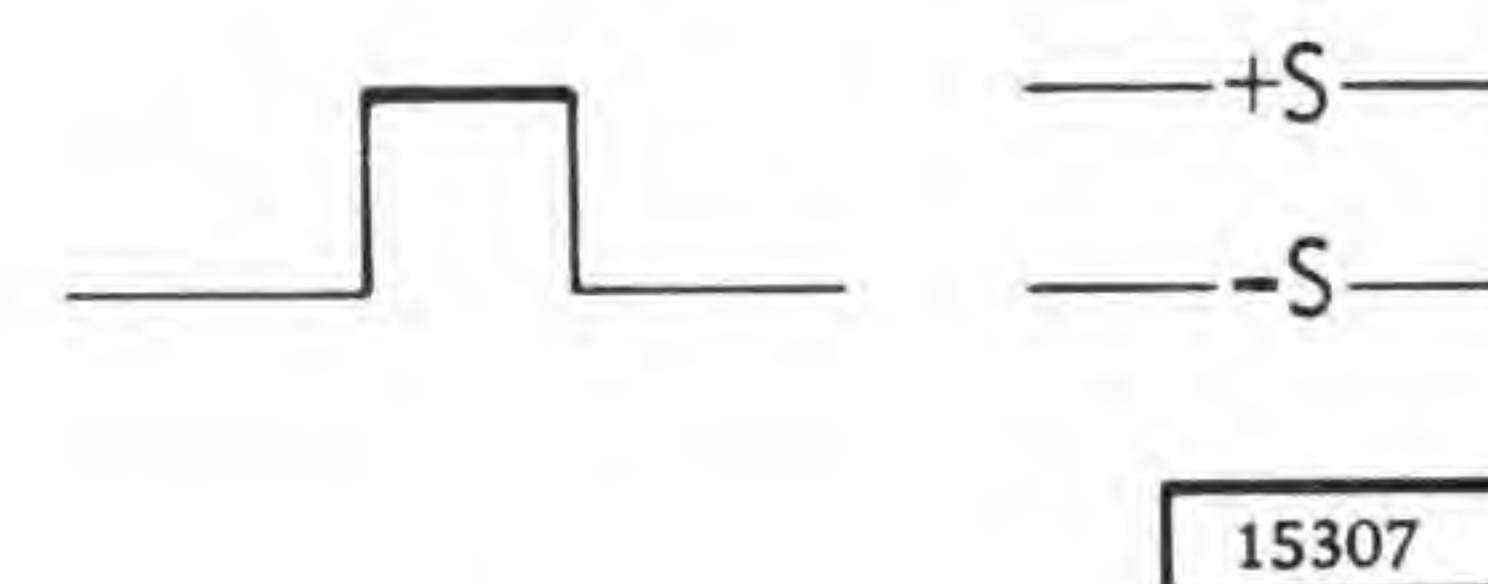

Figure 3-2 Correct Index Pulse
1. The +S output pulse of the index amplifiers (TEB-01A5E07B and 01A5E07C) should be a minimum of 25 microseconds (Figure 3-2) and a maximum of 65 microseconds as measured at the -6 volt level.
2. Adjust the gap between transducer pole tip and disk pole tip by rotating transducer until the required signal output is obtained (Figure 3-2). Adjustment of one-fourth turn moves the transducer approximately 0.015" in or out.